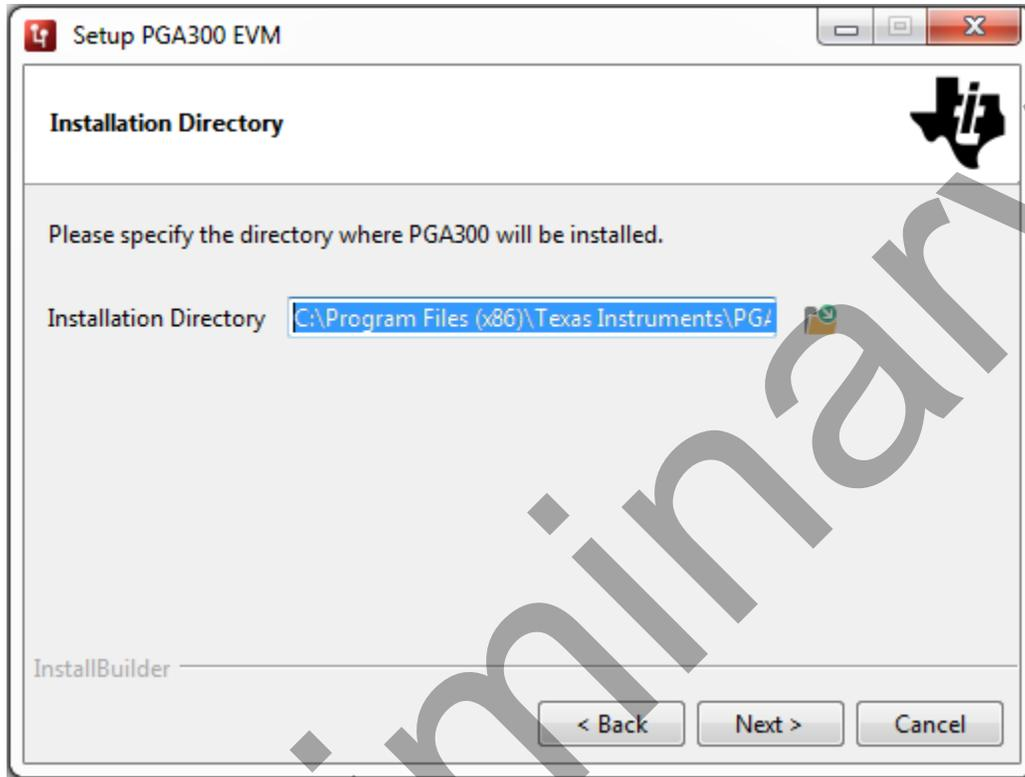

Fig 5: Destination Directory
3. Set the destination directories for the PGA300 GUI installation and press the **Next»** button as shown in *Fig 5: Destination Directory* .